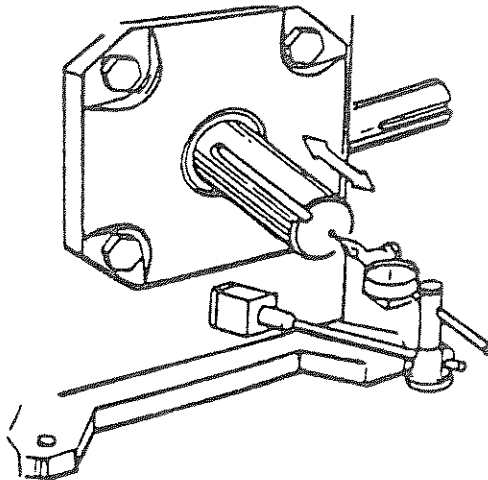

Figure 5 Checking Axial Float
C. Moving the shaft back and forth by hand, check axial float with dial indicator as shown in Figure 5. Axial float must be .0005-.003" with .0005 being the absolute minimum. Do not preload bearings. If the axial float is not as specified, add or subtract required shims under end cover.